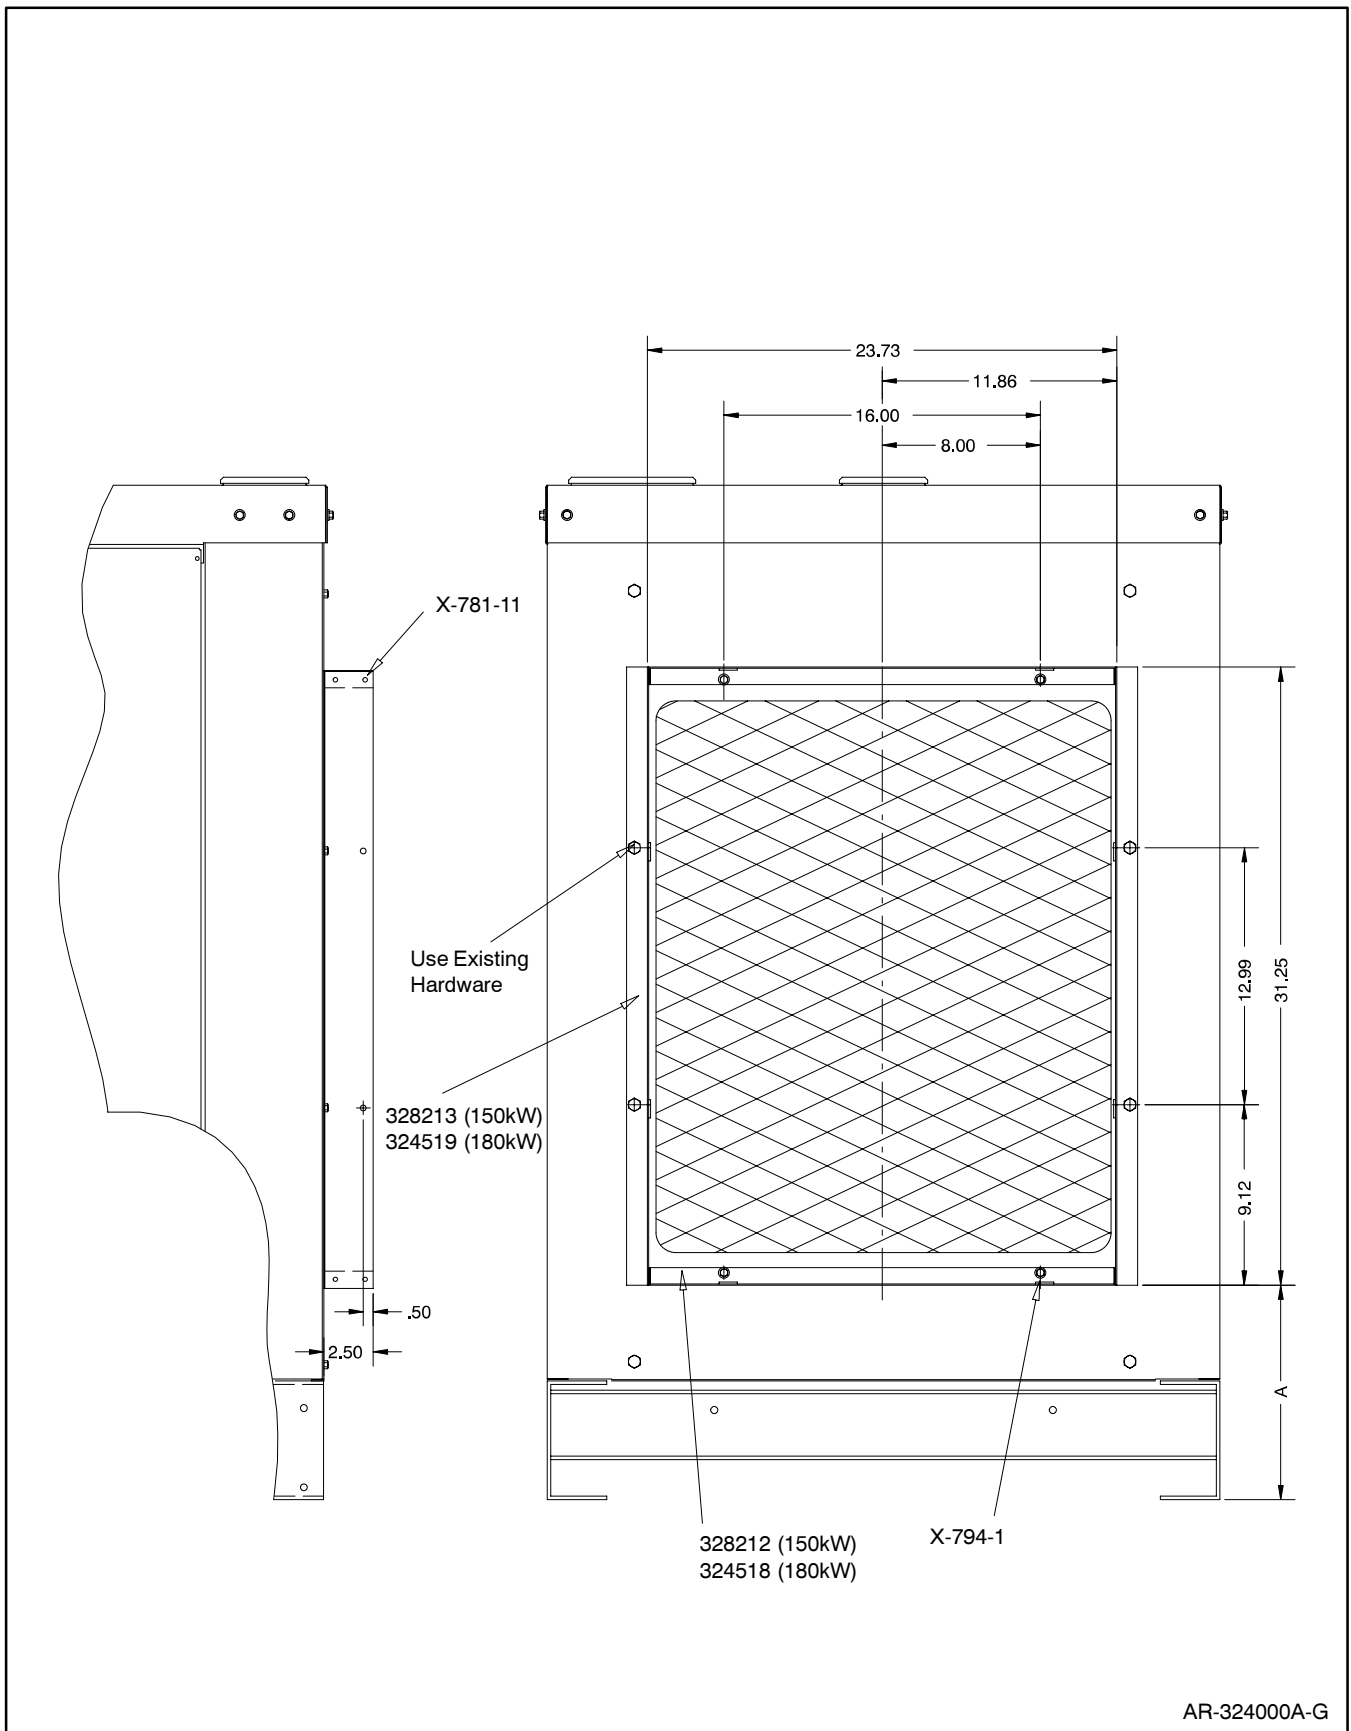

Figure 2 Radiator Duct Flange Mounting
8. Remove the drill screws attaching the radiator duct flange to the radiator shroud. See Figure 2. Do not remove the bolts attaching the radiator duct flange to the sound shield enclosure.
4. Align the radiator duct flange with the radiator shroud. Attach the radiator duct flange to the radiator shroud using four drill screws (X-794-1). Predrill mounting holes if an impact wrench is not available. See Figure 2.
Note: To improve air flow, remove the center of the radiator shroud by cutting the sheet metal between the rectangular openings. Be careful not to damage the radiator fins. See Figure 2.